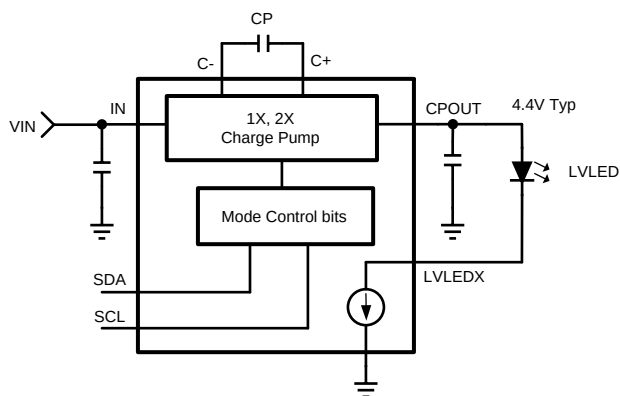

Figure 23. Integrated Charge Pump
The LM3533 features an integrated (2 $\times$ /1 $\times$) charge pump capable of supplying up to 150 mA. The fixed 1-MHz switching frequency allows for use of tiny 1- μ F ceramic flying capacitors (CP) and output capacitor (CPOUT). The charge pump can supply the power for the low-voltage LEDs connected to LVLED1 to LVLED5 and can operate in 4 different modes: disabled, automatic gain, 1 $\times$ gain, or 2 $\times$ gain (see Figure 23).